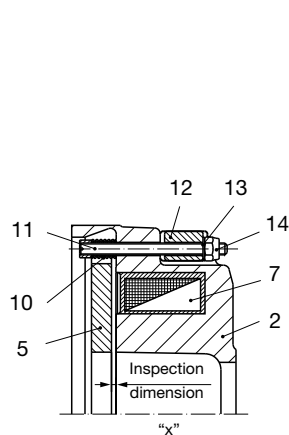

Fig. 1
### Installation Procedure (Figs. 1 and 2):
2. Remove the sealing plugs from the hand release bores in the coil carrier (2).
3. Put the thrust springs (10) onto the threaded bolts (11). The threaded bolts (11) are manufacturer-side produced with a key as a tension element and are secured with glue up to size M60. This connection must not be loosened.
4. Push the threaded bolts (11) with thrust springs (10) from the inside (facing the magnetic coil (7)) into the hand release bores in the coil carrier (2).
5. Push the O-rings (only with sealed hand release, Type 891.\_ \_1) over the threaded bolts (11) and insert them into the recesses of the coil carrier (2).
6. Push intermediate plates (only with sealed hand release, Type 891.\_ \_1) over the threaded bolts (11).
7. Put the switch bracket (12) in place, put washers (13) onto it and lightly screw on the self-locking hexagon nuts (14).
8. Tighten both hexagon nuts (14) until the armature disk (5) lies evenly on the coil carrier (2).
9. Loosen both hexagon nuts (14) by "Y" turns (see Table 1, page 7), thereby creating an air gap between the armature disk (5) and the coil carrier (2) or the inspection dimension "x" (Fig. 1).